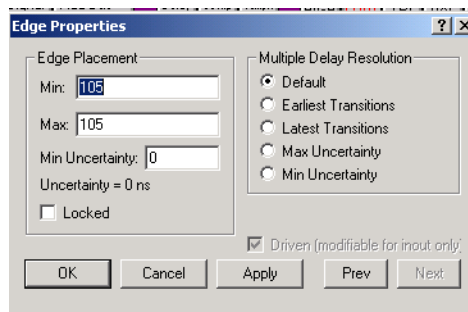

Figure 8-7. Edge Properties Dialog Box
1. **Double click on an edge of the signal transition to open the Edge Properties dialog, as shown in Figure 8-7.**